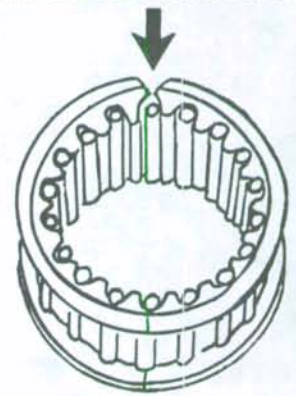
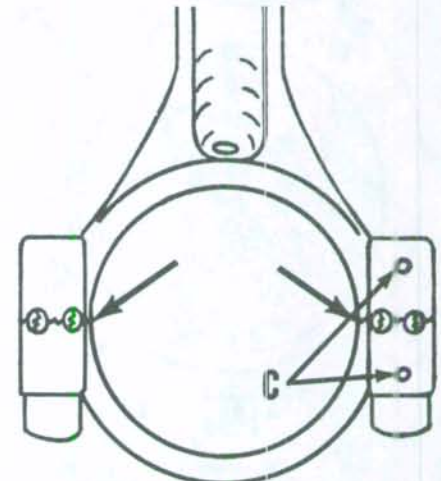

Fig. Mc5-14—Connecting rod bearing cages have one ground corner as indicated by arrow. Ground corners must be matched during assembly.
Fig. Mc5-15—Uneven fractured parting line of rod and cap (shown at arrows) assures positive fit after assembly. Be sure correlation marks (C) are aligned.
Connecting rod bearing is of the caged roller type as shown in Fig. Mc5-14. Cages and rollers are available as an assembly only, and the parts should be kept together and not interchanged. Examine bearings for wear, pitting or other damage, and bearing surface of rod and cap for roughness, scoring, wear or heat discoloration. When installing connecting rod bearings, make sure cage is properly installed, with the matching ground corners aligned as shown by arrow. Parting faces of rod and cap are not machined, but are fractured at point of arrows, Fig. Mc5-15, to provide positive location. When installing cap, make sure the correlation marks (C) are aligned; then shift cap back and forth a slight amount while tightening, until fractured sections are in perfect mesh. When tightened completely, the parting line of rod and cap is practically invisible. When installing the connecting rod, the side marked "TOP" should face flywheel end of crankshaft.